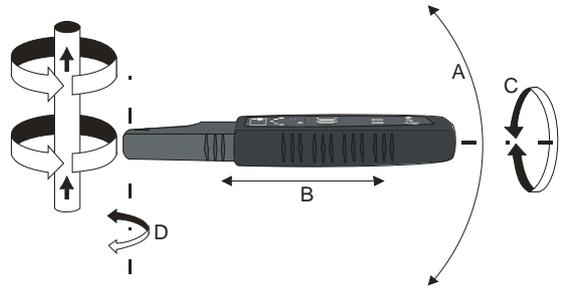

Fig.4 Magnetic field detection
Measurements can be performed in a closed circuit provided that a current flow can be induced in the circuit. This is the case in a healthy line with line's voltage exceeding 9V (the circuit is closed by a transformer) and also in a shorted line, using the „M+E” mode or an external power source. In all described situations the detection is done by evaluating the magnetic component of the field. Fig.4 illustrates the direction of the magnetic field lines around the cable in which the modulated current flows, and the placement of the receiver allowing for the highest possible intensity of the received signal.
- Move the receiver's antenna along the tested line (Fig.4) trying to follow the maximum strength of the signal. Press the **16**  button to increase the precision (section 7.1).